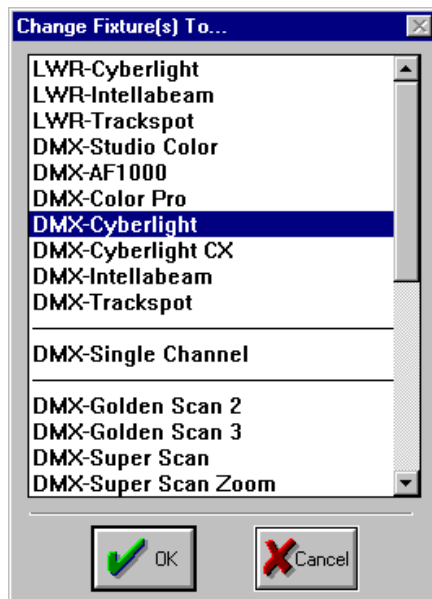
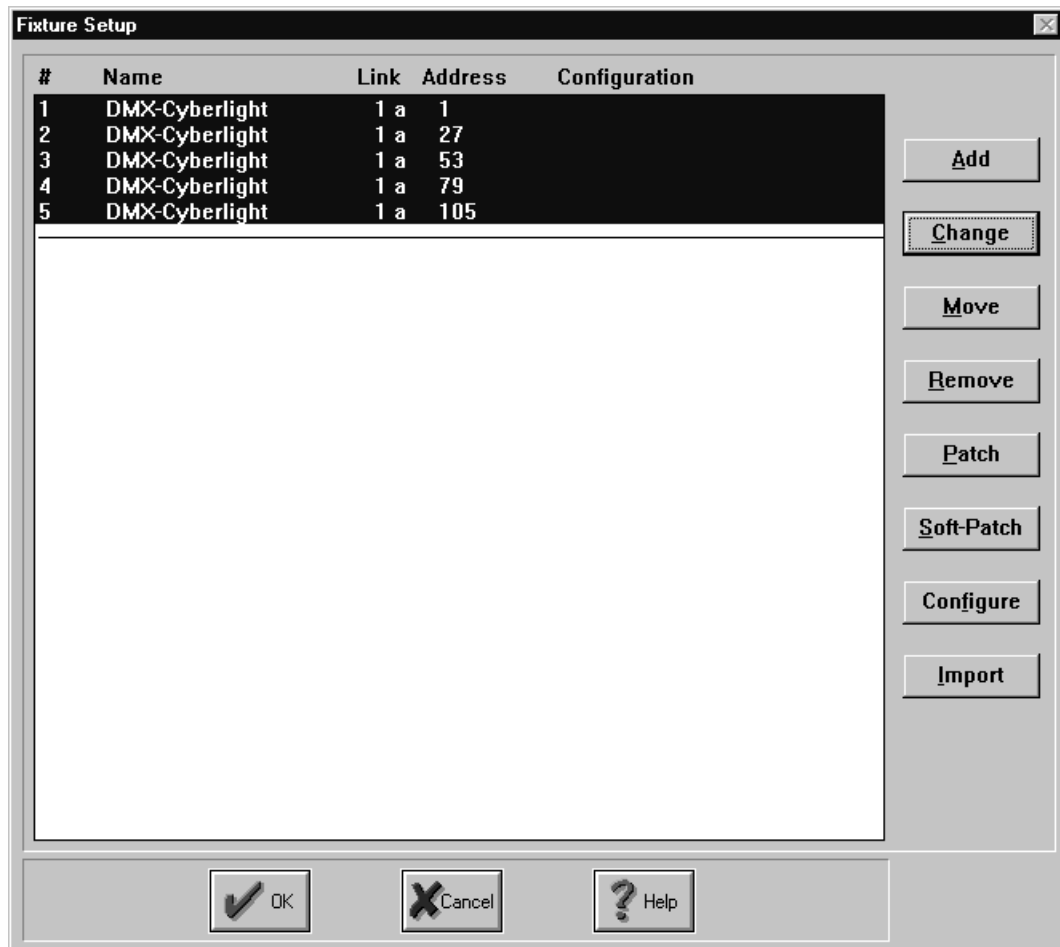

Figure 4.7. Change Fixture(s) To... Dialogue Box
Figure 4.8. Changed Fixture Types Example
3. Click on the **Change** button. This will bring up the **Change Fixture(s) To...** dialogue box. Refer to Figure 4.7.
4. Click the type of fixture you wish to change to. Click on the **OK** button to return to the **Fixture Setup** window. Refer to Figure 4.7. The **Fixture Setup** window now indicates your changes. Refer to Figure 4.8 for an example.